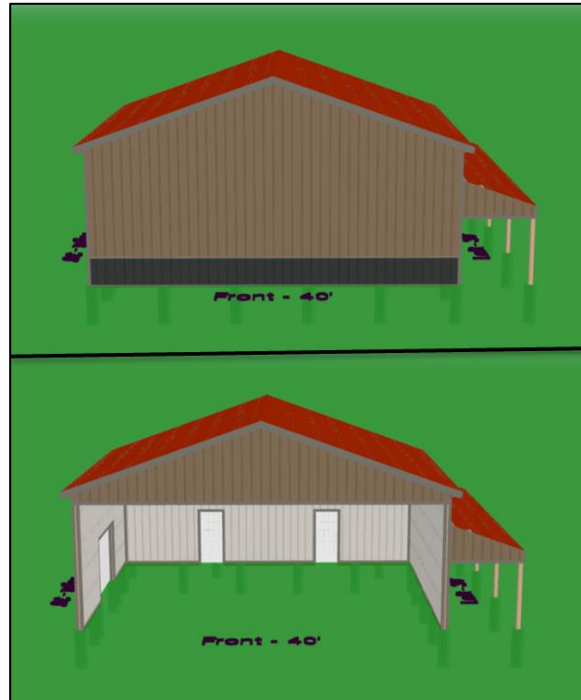

Figure 31: Toggling an existing wall Open.
3. With the **Open Wall** button now activated, click on the wall that you wish to toggle **Open**. (See Figure 31 at right.)